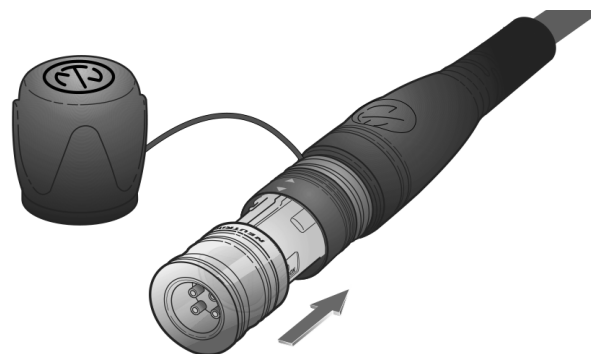

Figure 4-21: Installing the Neutrik Service Tool
- Step 3. Mount the Neutrik Service Tool onto the Front Shell. **(Figure 4-21)**